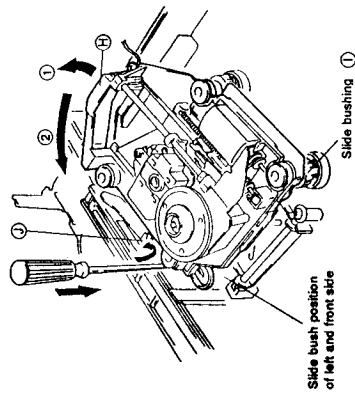

Fig. 2-4
- 4 Push the slide bushing at the front left with a thin implement such as a ⑥ screwdriver ( Fig. 2-4 ).
- 5 Pull up the rear side H of the servo mechanism assembly. ( Arrow ① in Fig. 2-4 )
- 6 To release the engagement at section ① of the servo mechanism assembly, turn the assembly counterclockwise on the slide bushing ⑦ ( Arrow ② in Fig. 2-4 )